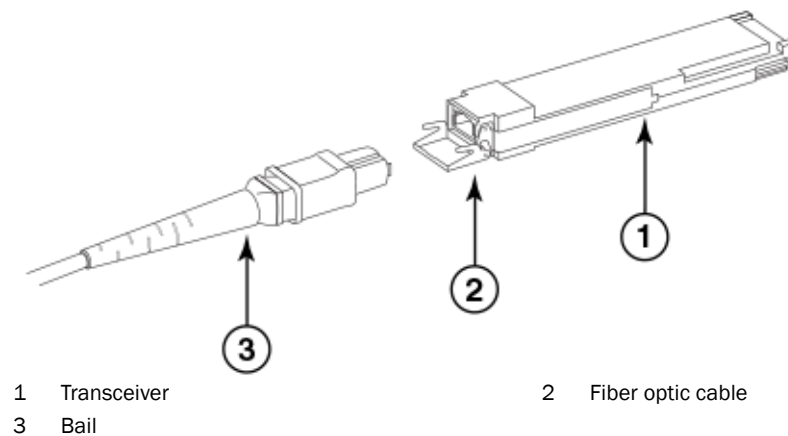

FIGURE 30 QSFP cable and transceiver with bail open
3. If your transceiver has a bail release as shown in Figure 30: